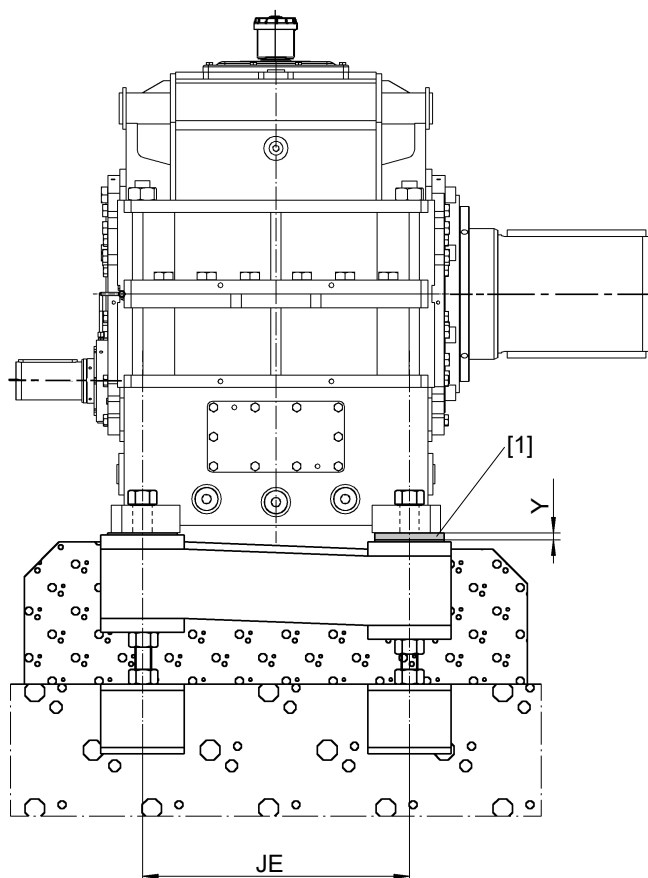

Figure 6: Mounting accuracy when aligning
- Mount the components according to Sec. "Gear unit foundation". The shims [1] (→ Figure 6) facilitate later adjustment and, if necessary, to mount a replacement gear unit.